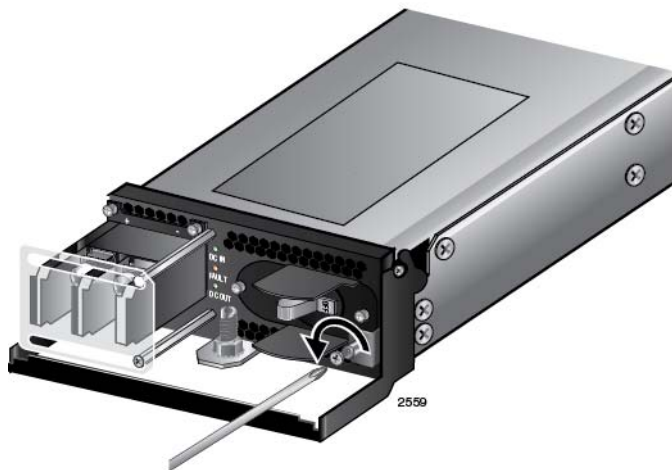

Figure 56. Loosening the Handle Locking Screw on the AT-SBxPWRSYS1 DC Power Supply
5. With a #2 Phillips-head screwdriver, loosen the handle locking screw on the power supply, as shown in Figure 56.